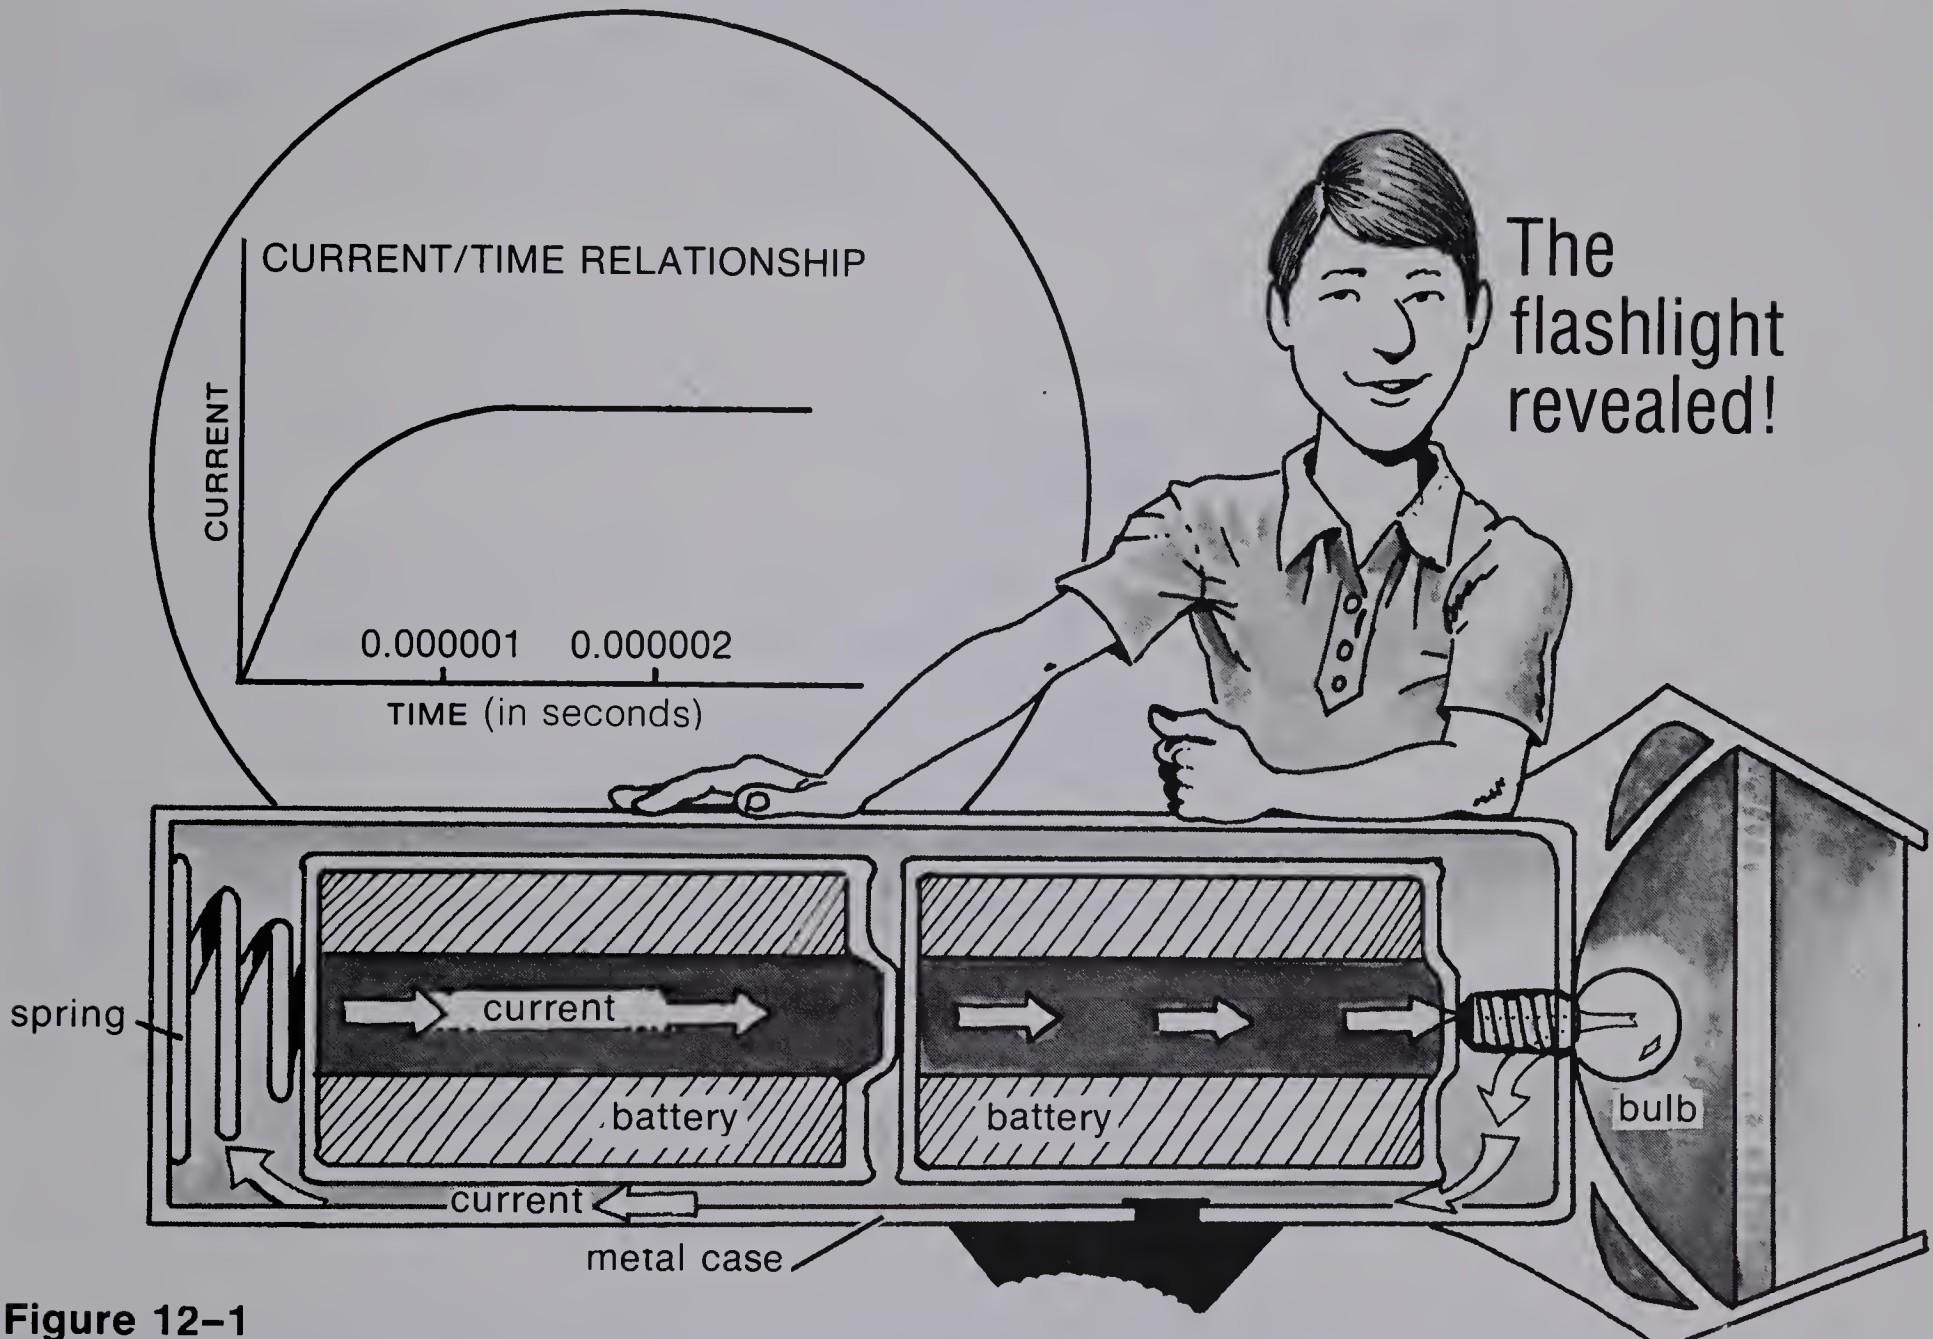

Figure 12–1
When the switch of a flashlight is turned on, the current increases very quickly. Figure 12–1 shows what happens in the first two-millionths of a second.
- 12–2. Identify the conducting path for the current in a flashlight, starting at the positive (center) terminal of the battery nearer the bulb (Figure 12–1).